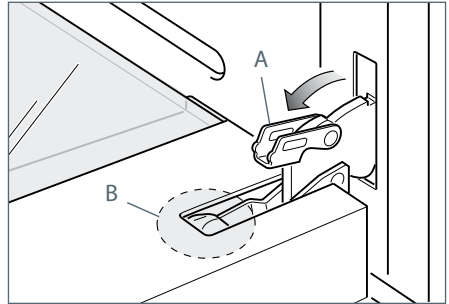
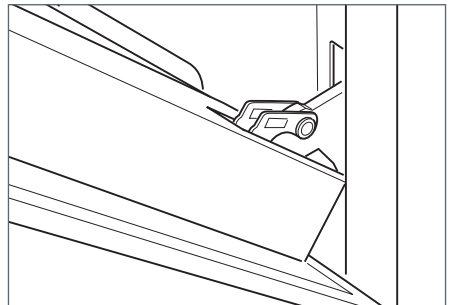

Fig.36b
Fig.36c
- Fully open the lever "A" on the left and right hinges (Fig. 36b).
- Gently close the door (Fig. 36c) until the left and right hinges are hooked to part "B" of the door (Fig. 36b).